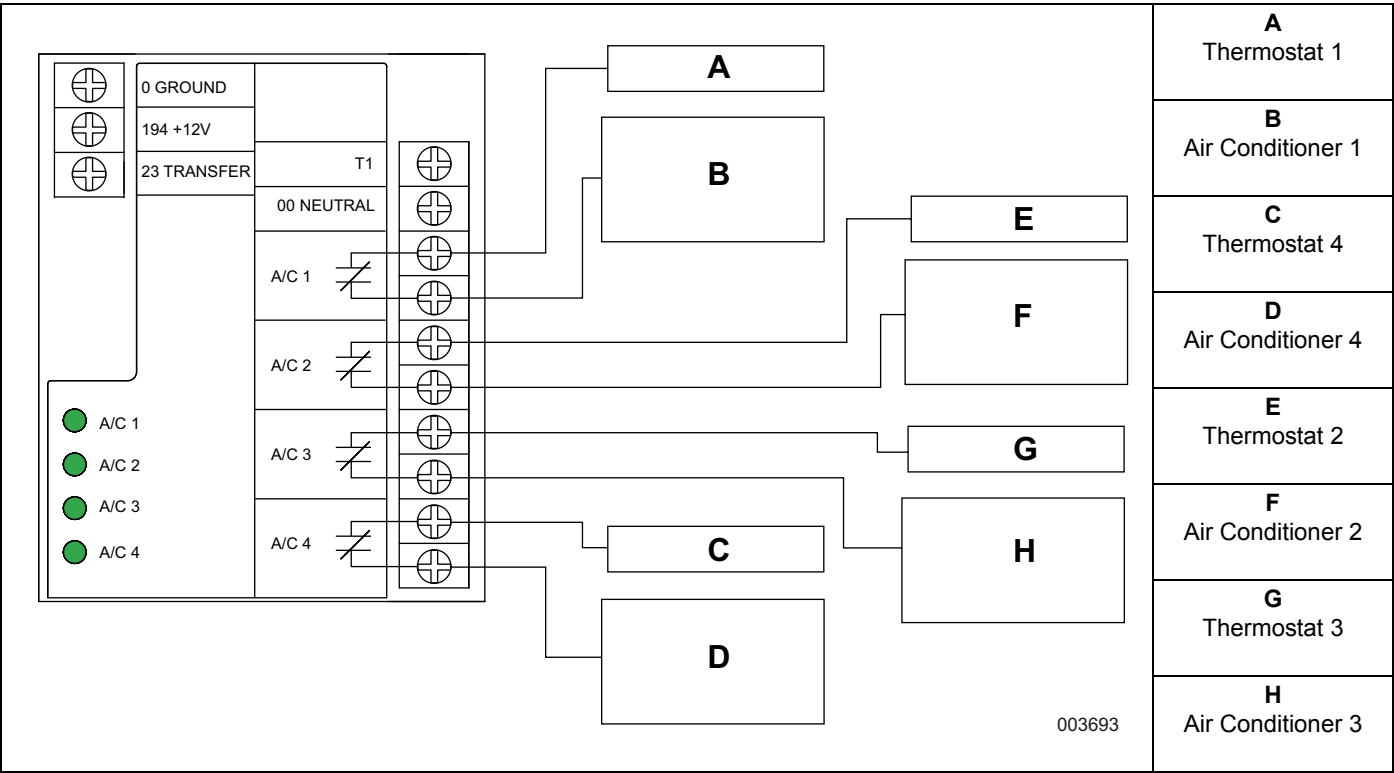

Figure 3-4. Typical SACM Connections
See Figure 3-4. The Smart A/C Module (SACM) can control an air conditioner (24 VAC) directly.
2. Connect the wire to the terminal strip terminals (A/C 1) on the SACM as shown in Figure 3-4. These are normally closed contacts which open upon load shed conditions. Route thermostat wire away from high voltage wires.